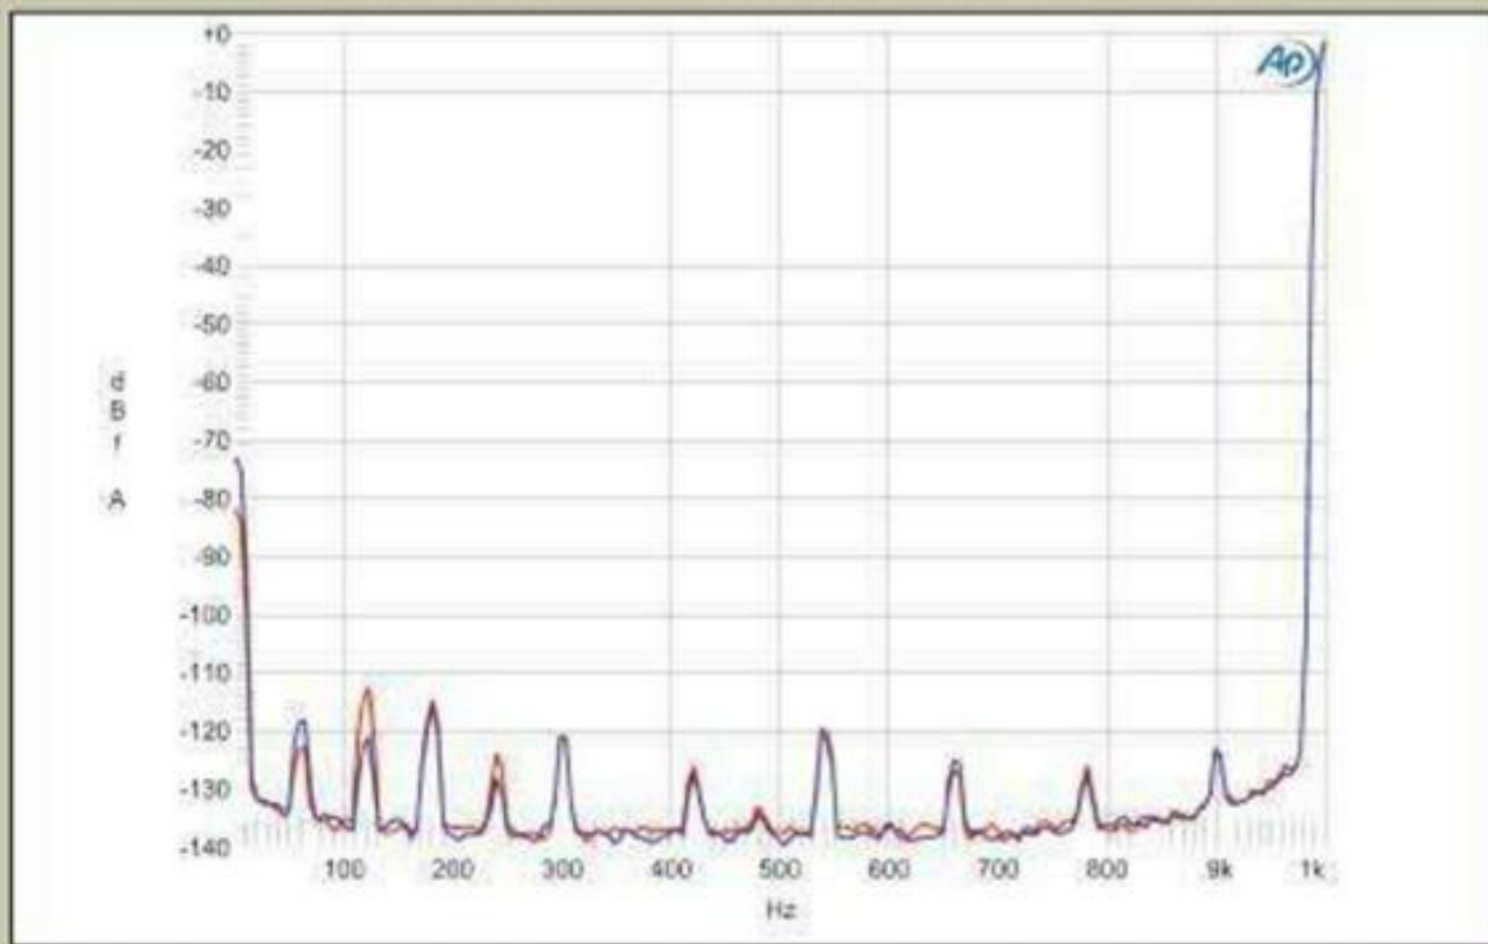

Fig.3 Musical Fidelity AMS100, spectrum of 1kHz sine wave, DC–1kHz, at 50W into 8 ohms (linear frequency scale).
Channel separation (not shown) was excellent at >100 dB below 800Hz in both directions, and was still 80dB at 20kHz. The unweighted wideband signal/noise ratio was not as good as I was expecting from a class-A design, at 76.8dB left and 75.3dB right, both figures ref. 1W into 8 ohms. A-weighting improved the ratios to a respectable 89.2 and 90.75dB, respectively. Fig.3 reveals that the AMS100's low-frequency noise floor has some supply-related spurious: the tones at 120 and 240Hz stem from the full-wave supply and are a little higher in the right channel than the left; those at 60 and 180Hz and higher may well